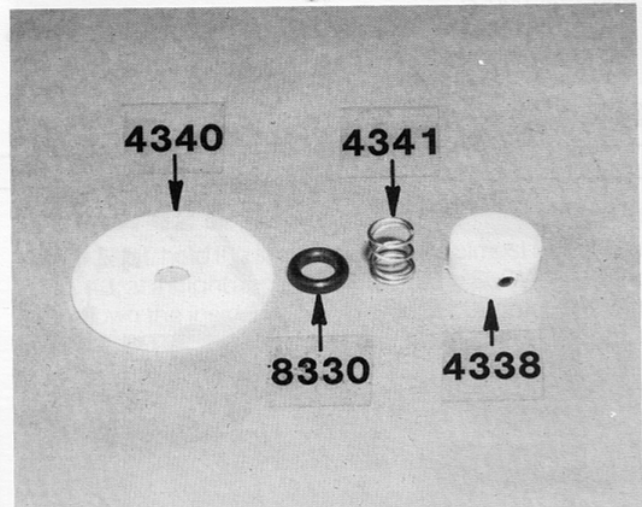

Fig. 31
□ **Figs. 31 & 32**—Open Bag #6. Take the #8330 black O-ring and push it into the hole in the #4340 dampner washer. Start a set screw into the #4338 locking collar and slip the collar down over the tube, as shown. Now slip the #4341 spring on and then the #4340 dampner washer with the smooth side of the washer up.